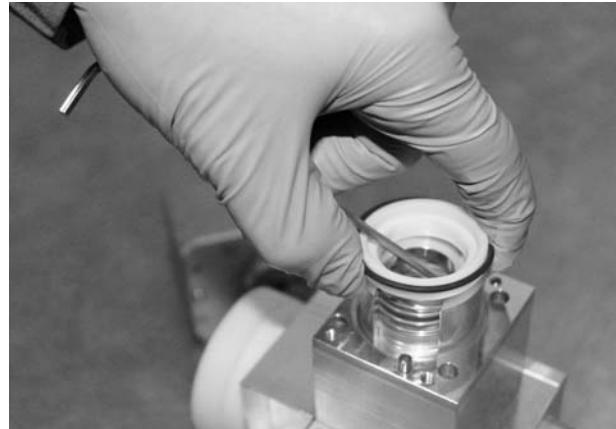

Figure 117: Removing the attenuator tube
3. Pull the attenuation tube out of the attenuator box (see Figure 117). Where necessary, use suitable tool (e.g. the straight shaft of an allen key) to initially lift the attenuation tube.